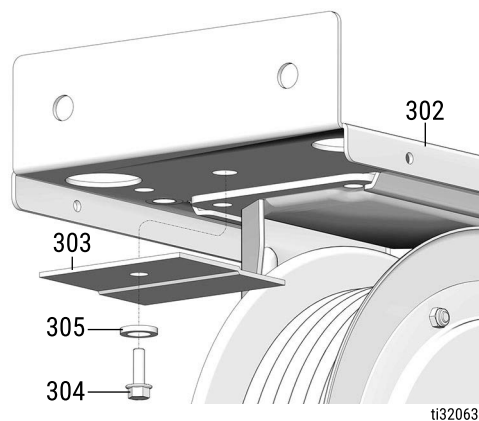

FIG. 10
6. Install the hold down plate (303) using screw (304) and washer (305) (FIG. 10).